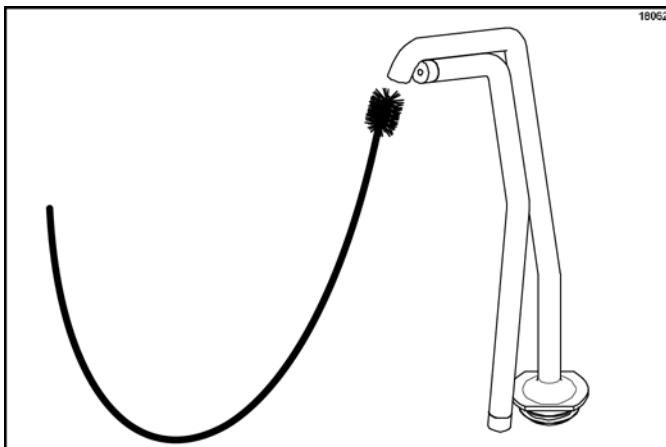

Figure 6-101
2. Insert the black shielded brush through the tip of the discharge tube. Move the brush back and forth to scrub the tip of the discharge tube. (See Figure 6-101.)